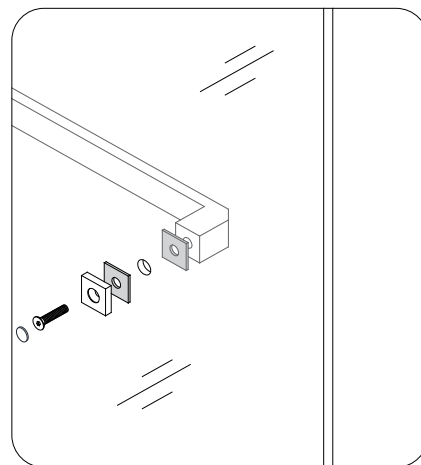

Fig 16
16. Install both the inside and outside **Towel Bars (#08)** using all of the provided gaskets as shown. Cover the exposed bolts with the decorative caps. **(Fig 16)**